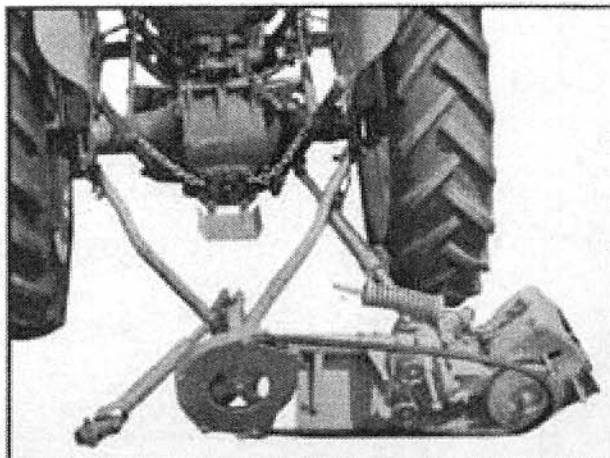

Fig. 32 Attach Lower Struts tractorclub.com Fig. 33 Hook Struts on Stabilizer Pins
2. Remove the belt from the drive unit pulley. Attach the left and right struts to the underside of the mower drive shaft housing. Leave the four bolts loose. See Fig. 32.